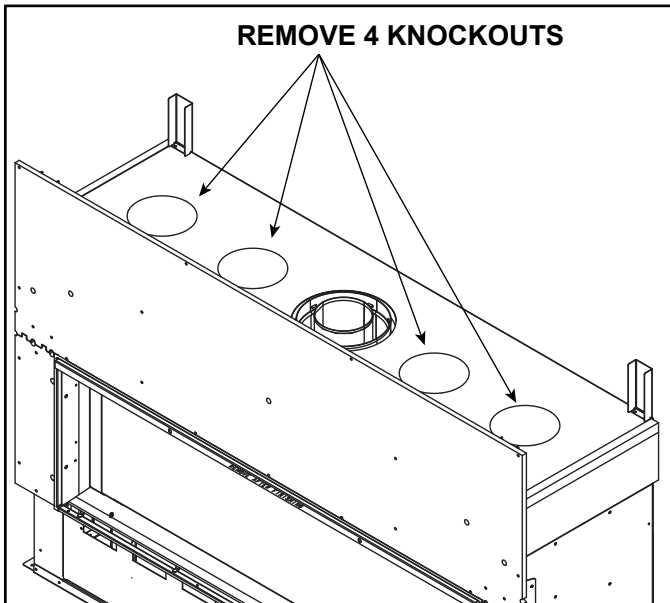

Figure 9 Remove Knockouts
1. Remove the four knockouts on the top of the appliance by dislodging them with a hammer and then using a screwdriver to remove from the holes. See Figure 9.
2. Remove the insulation plug from each knockout. Discard. See Figure 9.